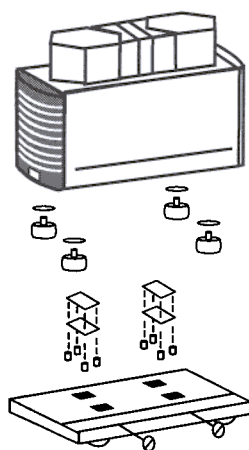

Figure 6: Pump Mounting Arrangement
- Install the mounts onto the pump according to figure 6.